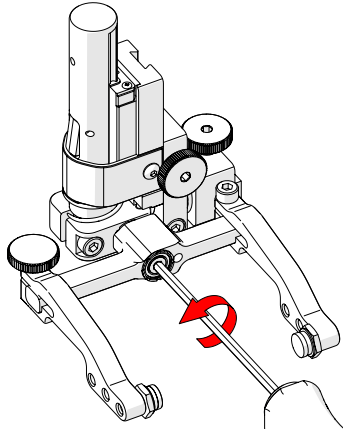

Fig. 78 - Unscrew yoke pivot screw
2. Using the supplied 3 mm hex driver (Fig. 33), unscrew the yoke pivot screw and remove the yoke (Fig. 78).